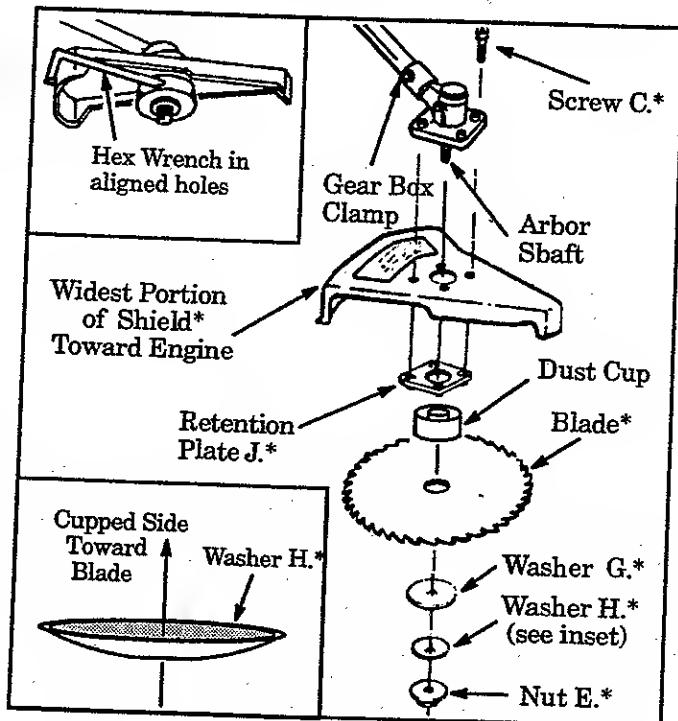

Figure 6
Failure to install the shield in the position shown in Figures 6 and 7 can result in serious injury to the operator. The length of the shield must be aligned with the length of the tube. Direct widest part of the shield toward the engine.
- Position the retention plate on the underside of the metal shield and align screw holes. Make sure the flat side of the plate is against the metal shield. Figure 6.
- Hold the retention plate in position and place the metal shield under the gear box. Align screw holes. Figure 6.
- h. Install blade over arbor shaft, making sure the hole in the center of the blade is fitted around the raised center on the dust cup. Figure 6.
- NOTE:** When installing blade, make sure teeth on blade are oriented as shown in Figure 6.
- i. Install the large flat washer "G.", cupped washer "H.", and nut "E." as shown in Figure 6. Be sure cupped washer "H." is installed as shown in Figure 6 (inset).
- k. Insert the large hex wrench (provided) into the aligned holes. Figure 6 (inset, upper left).